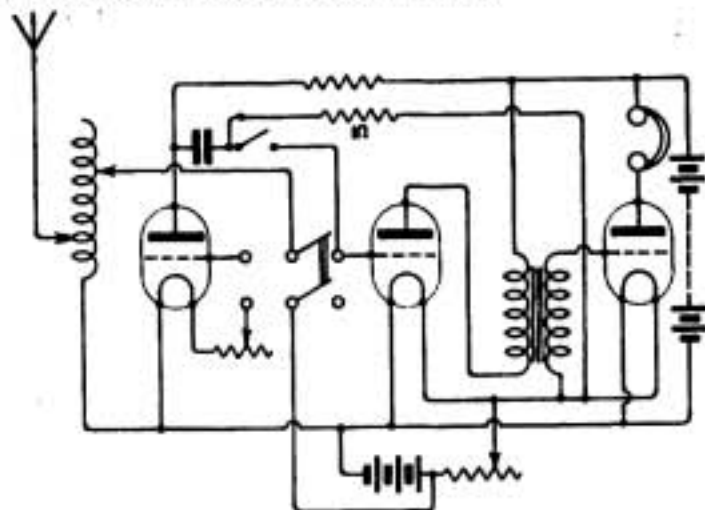

Fig. 6.
(1) We are quite unable to say from the information furnished, but it is probably fairly high—say, 1,000/2,000 ohms. (2) You will find it very difficult to obtain diaphragms of any size or thickness, but you should be able to get common sizes from dealers in accessories, or from telephone makers, who might possibly agree to cut you special sizes.
"GRID MODULATION" (Liverpool) asks (1) *With regard to a modulated grid circuit if it is necessary for both grid and plate circuit to be tuned.* (2) *With reference to a microphone transformer, page 132, in May 28th issue, if this transformer would be more efficient if enamelled wire were used for the secondary.* (3) *With reference to Fig. 6, page 131, May 28th issue, what is the value of the by-pass condenser U.*
(1) In a grid modulated oscillator it is not in general necessary to tune the grid circuit as well as the plate, although in some cases it is desirable to do so. The best value of the grid coil for each case should be determined by experiment. (2) There is very little difference in efficiency, but enamelled wire needs rather more careful handling. About 3 ozs. should be sufficient. (3) About 0.001 mfd.
(1) See diagram (Fig. 6). (2) The anode resistance may be 50,000 ohms; grid leak 1 megohm and coupling condenser 0.002.